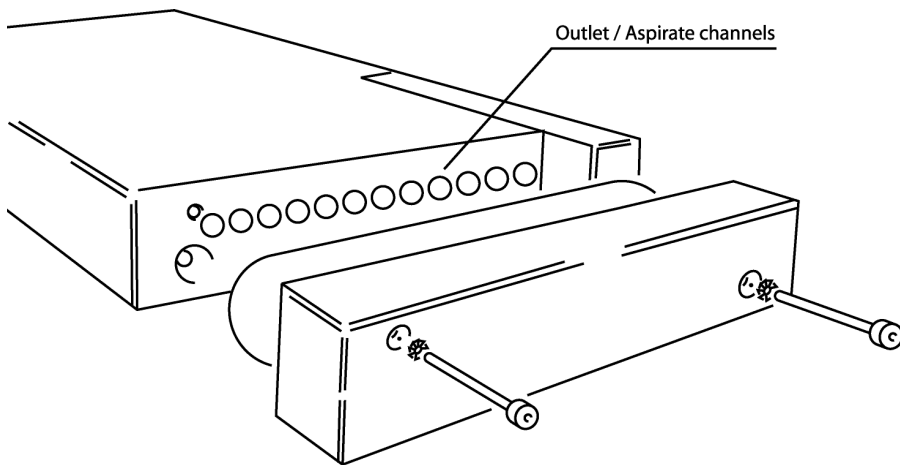

Figure 11: Wash head outlet channel seal block
- Step 1** Open the outlet channel seal block to get access to the wash head outlet channel (see Figure 11).